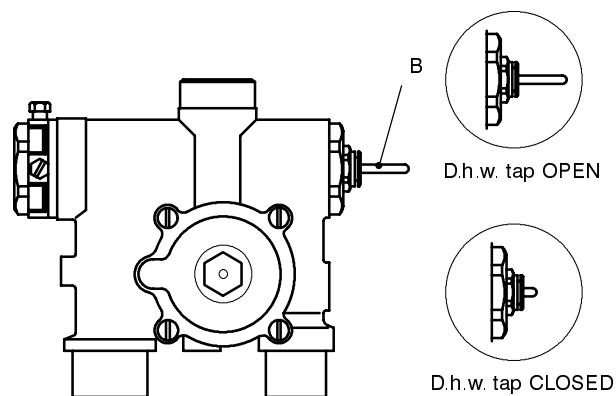

fig. 25
- 3 Open and close a d.h.w. tap and verify the position of the shaft B referring to fig. 25.